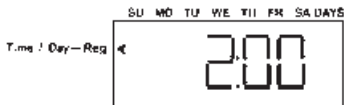

fig.13
2. Using the **↓↑** buttons, select the regeneration time (fig. 13).